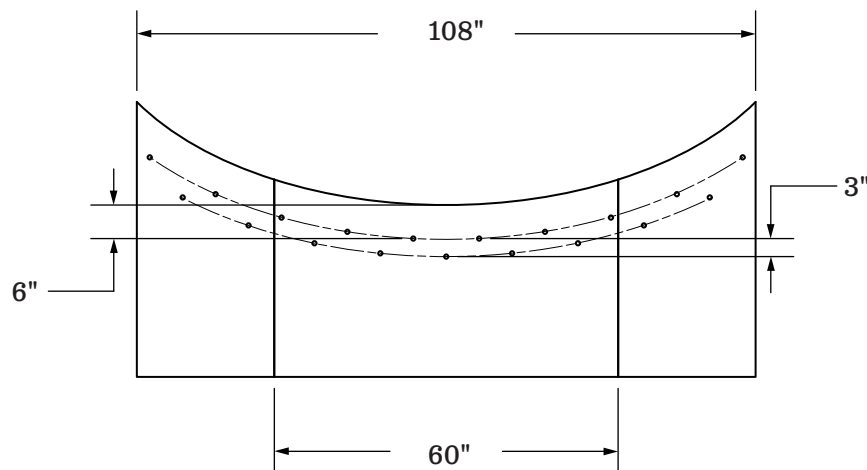

Figure 22
- 1) **Figure 22.** Two rows of screws or bolts, the first is a minimum of 6" from the edge of the liner part and the second is 3" from the first row. 3" from the out side edge of the liner stagger the screws every 6" across the trailer. Patterns for 5' and 9' are shown.